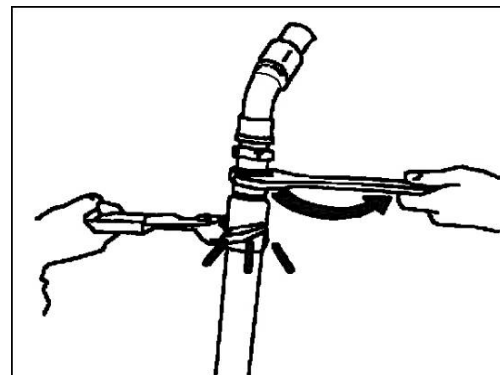

fig. 19
**DURING THIS OPERATION, HOLD THE ENDS OF THE FLEXIBLE PIPE TO PREVENT IT FROM REMAINING TWISTED** (fig. 19).